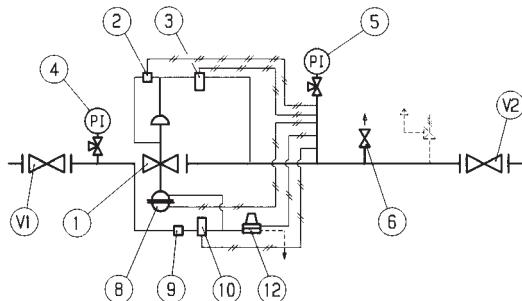

Fig. 25
5.5 MESSA IN SERVIZIO REGOLATORE APERFLUX 851 CON MONITOR INCORPORATO PM/819 E VALVOLA ACCELERATRICE (FIG. 25)
5.5 COMMISSIONING THE REGULATOR APERFLUX 851 WITH INCORPORATED PM/819 MONITOR AND ACCELERATING VALVE (FIG. 25)
5.5 INBETRIEBNAHME DES REGLERS APERFLUX 851 MIT INTEGRIERTEM MONITOR PM/819 UND SCHLIESSBE-SCHLEUNIGER (FIG. 25)
MANUEL TECHNIQUE MT049**5.5 MISE EN SERVICE DU DÉTENDEUR APERFLUX 851 AVEC MONITOR INCORPORÉ PM/819 ET VANNE D'ACCÉLÉRATION (FIG. 25)**
MANUAL TECNICO MT049**5.5 PUESTA EN SERVICIO DEL REGULADOR APERFLUX 851 CON MONITOR INCORPORADO PM/819 Y VÁLVULA ACCELERADORA (FIG. 25)**
MANUAL TÉCNICO MT049**5.5 ACTIVAÇÃO DO REGULADOR APERFLUX 851 COM MONITOR INCORPORADO PM/819 E VÁLVULA ACCELERADORA (FIG. 25)**